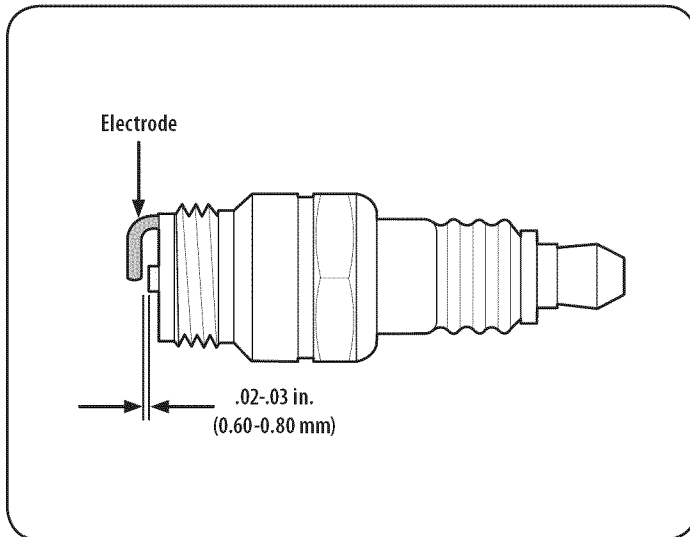

Figure 19
3. Measure the plug gap with a feeler gauge. Correct as necessary by bending the side electrode, see Figure 19. The gap should be set to .02-.03 inches (0.60-0.80 mm).